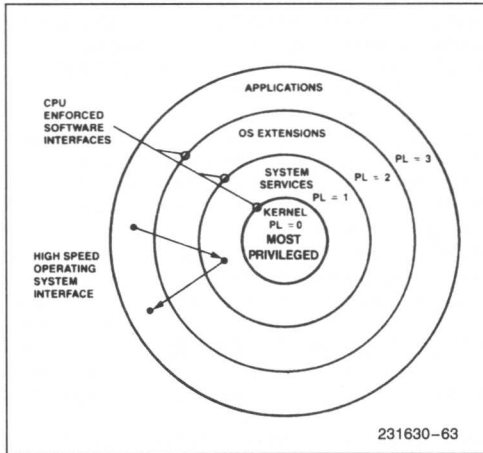

Figure 4-14. Four-Level Hierarchical Protection
The four-level hierarchical privilege system is illustrated in Figure 4-14. It is an extension of the user/supervisor privilege mode commonly used by mini-computers and, in fact, the user/supervisor mode is fully supported by the 80386 paging mechanism. The privilege levels (PL) are numbered 0 through 3. Level 0 is the most privileged or trusted level.